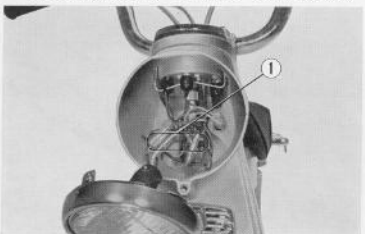

Fig. 4.12 Disconnect electrical leads (CT 90)
4. Remove the headlight mounting screw and pull off the headlight unit. Disconnect the horn, turn signal and the dimmer switch leads ① at the connectors within the headlight case. (Fig. 4.12)